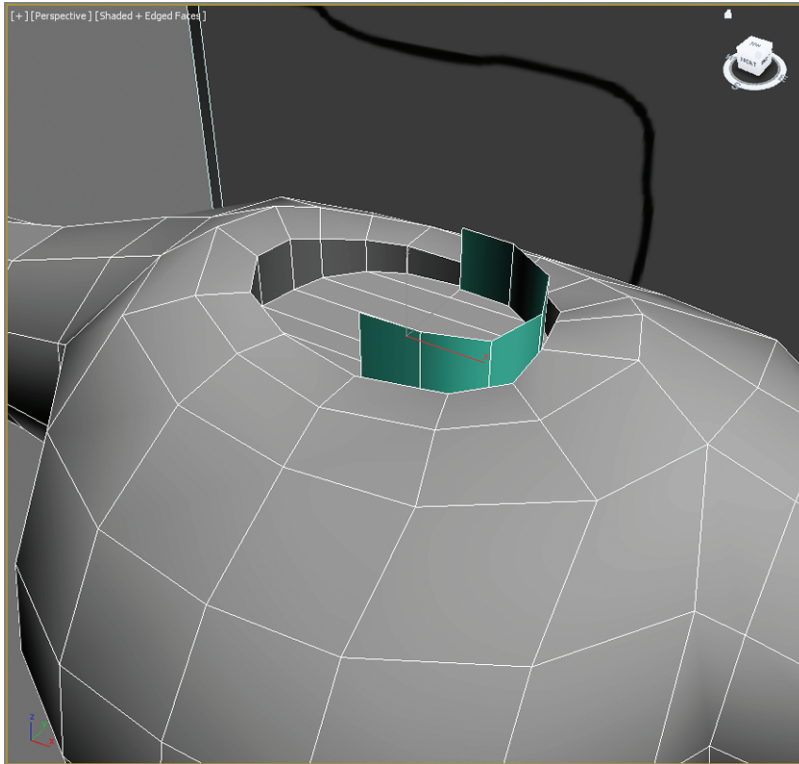

FIGURE 9.2 Delete half of the cylinder and its top and bottom.
7. In Polygon mode, select and delete the left half, the top, and the bottom of the cylinder, and move the edges and vertices so the new neck geometry is formed better within the neckline, as shown in Figure 9.2.